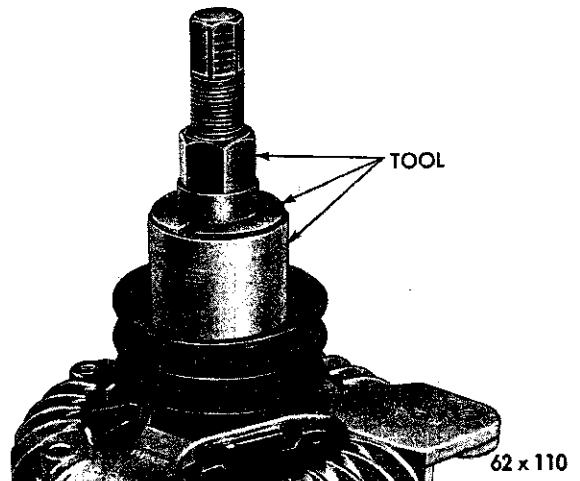

Fig. 15—Removing the Alternator Pulley
(4) The pulley is an interference fit on the rotor shaft. Remove the pulley with puller Tool C-3615 or C-3934 (Fig. 15).